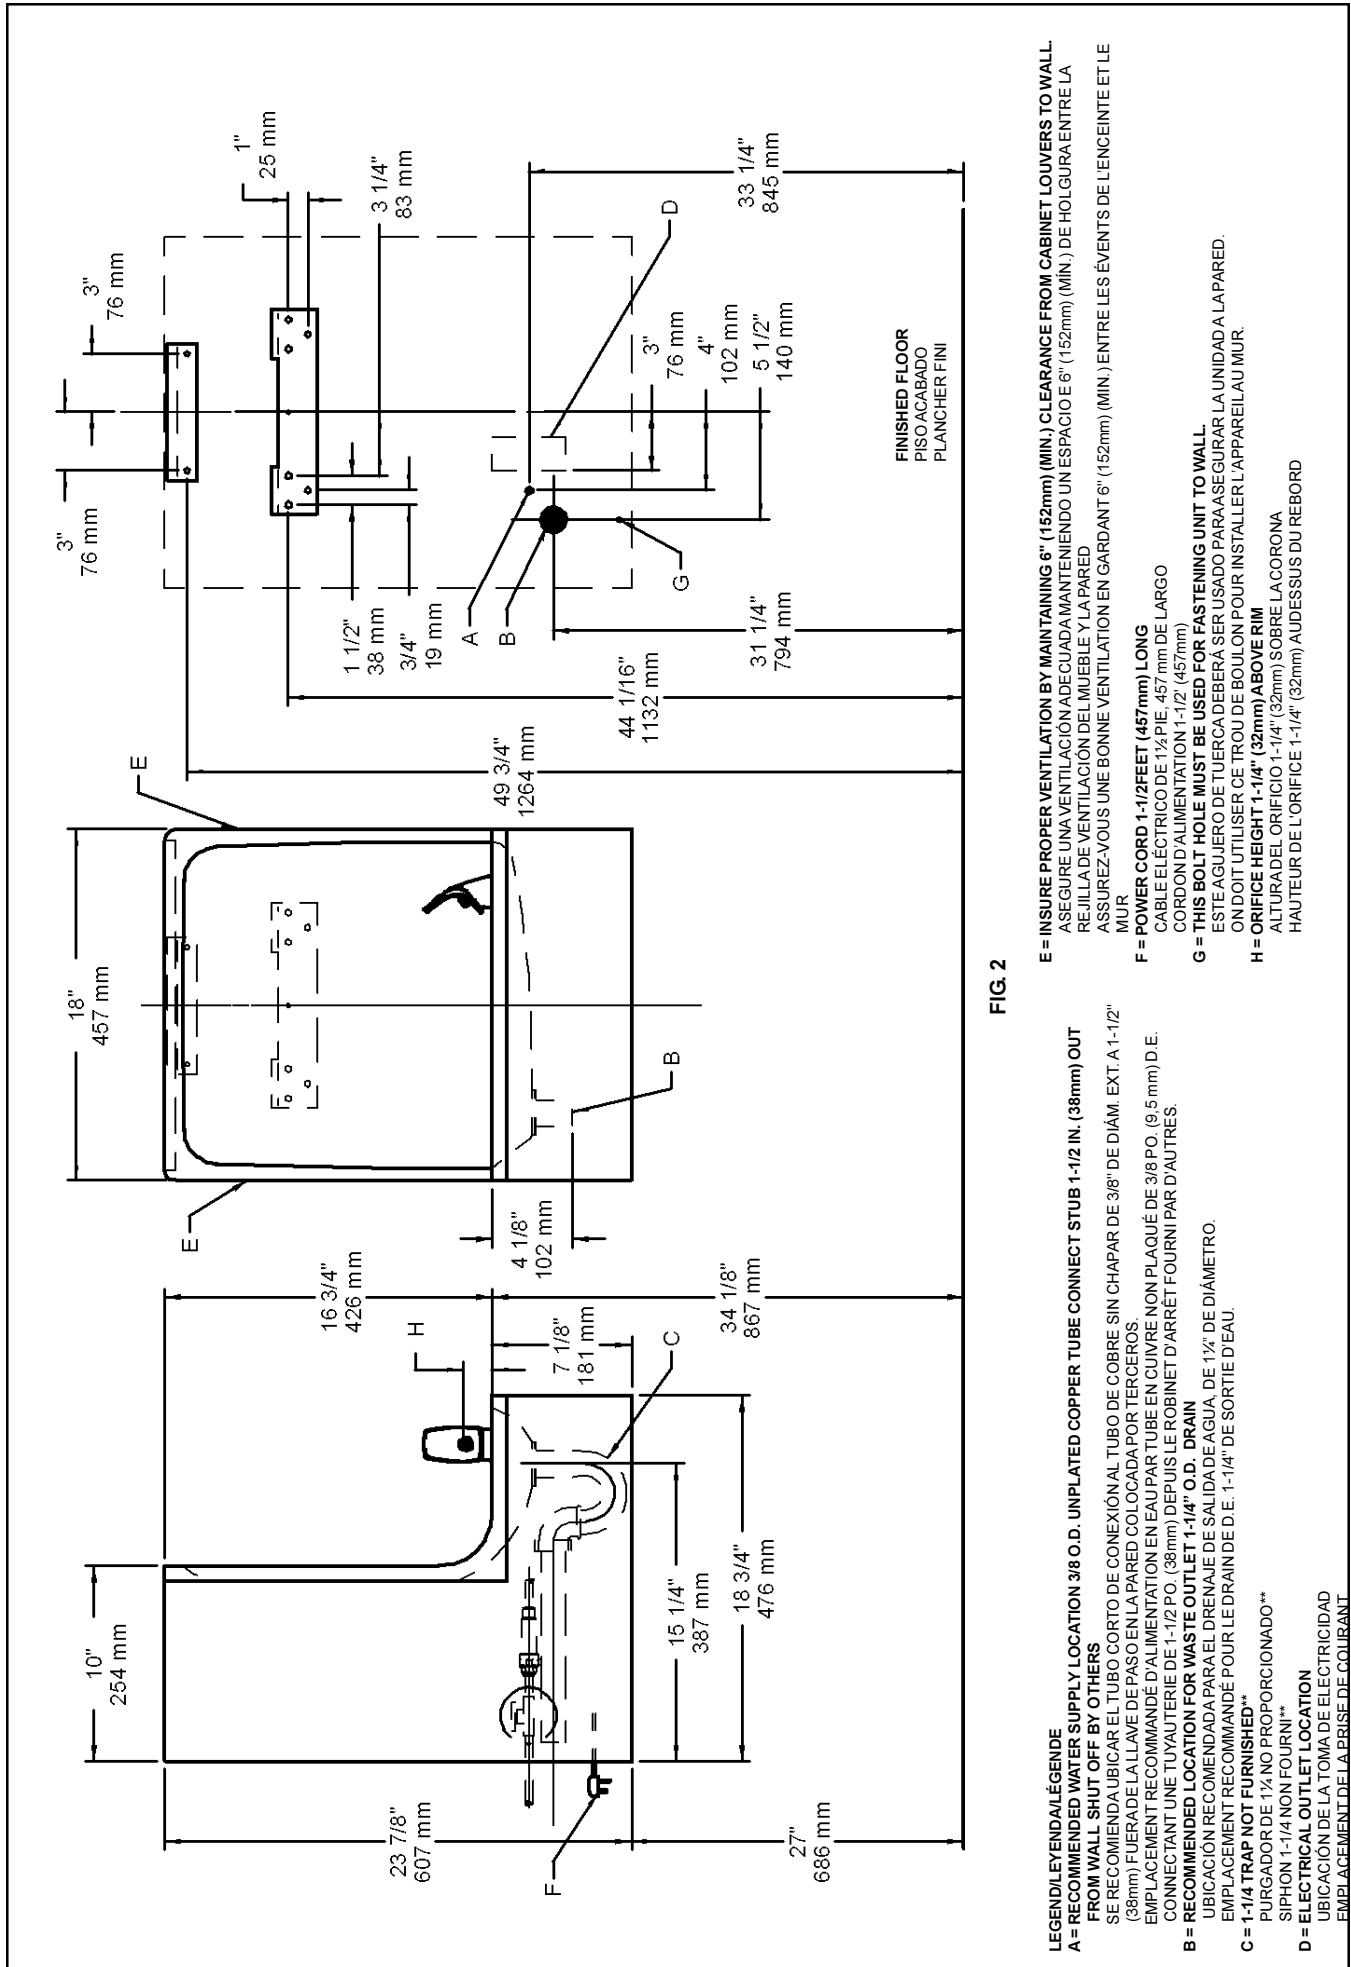

FIG. 2
- 1) Remove hanger brackets fastened to back of cooler by removing one (1) screw.
- 2) Mount the hanger brackets and trap as shown in Figure 2.
- Anchor hanger securely to wall using all six (6) 1/4 in. dia. mounting holes.
- 4) Hang the cooler on the hanger brackets. Be certain the hanger brackets are engaged properly in the slots on the cooler back as shown in Figure 2.
- 5) Loosen the two (2) screws holding the lower front panel at the bottom of cooler base. Remove the front panel and set aside.